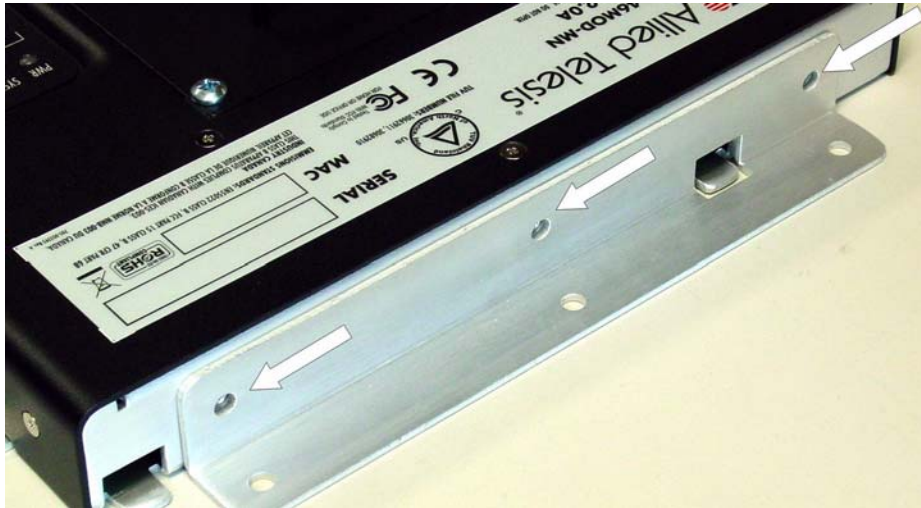

Figure 19. Attaching the Wall Mount Bracket to the iMGxx6MOD (Mounting Holes)
1. Take the wall mounting bracket and attach it to the top of the gateway using the three remaining mounting screws, as shown in Figure 19